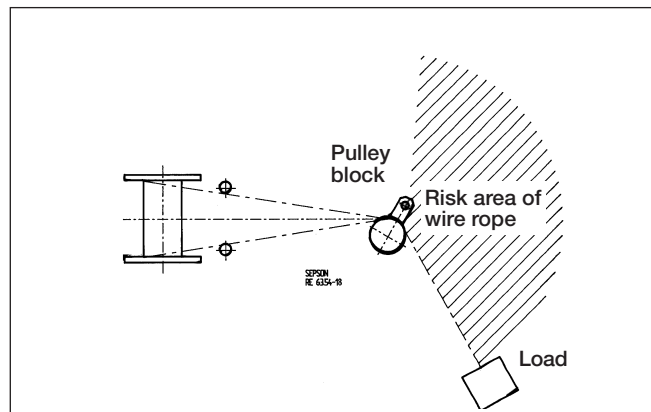

Fig 17 Risk area
- Allow no one to stand inside the risk area of the rope when the winch is operating. See fig 17.